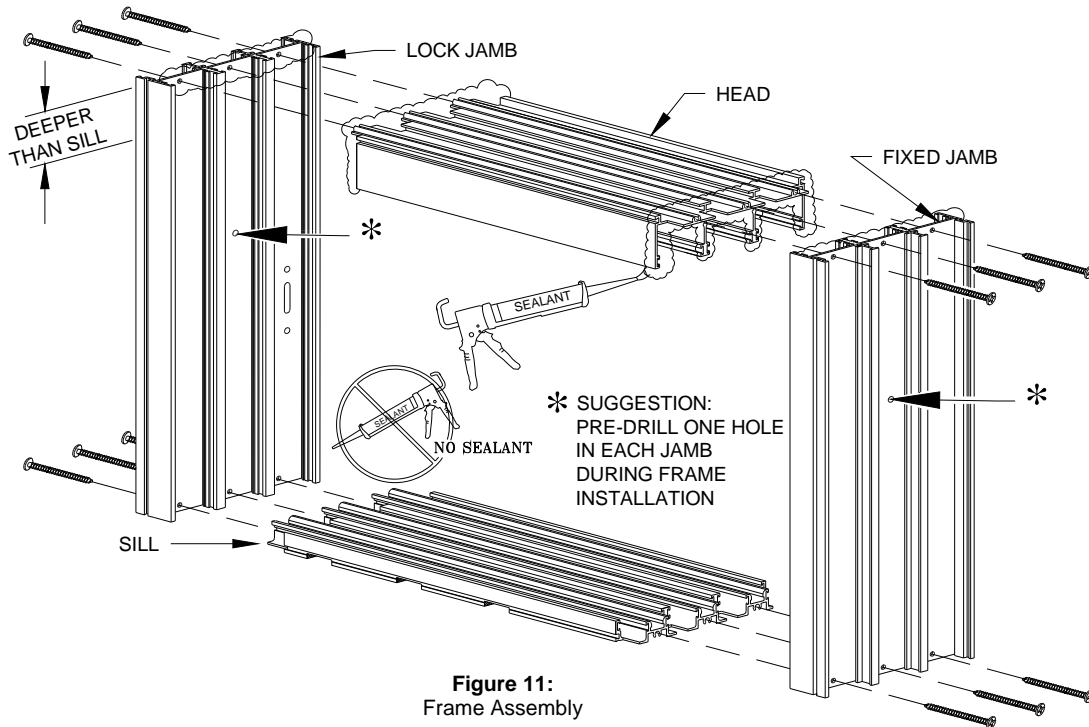

Figure 11:
2. Add sealant to the upper corners of the jamb(s) and to the end of the head that is compatible to the entire assembly (Figure 11).